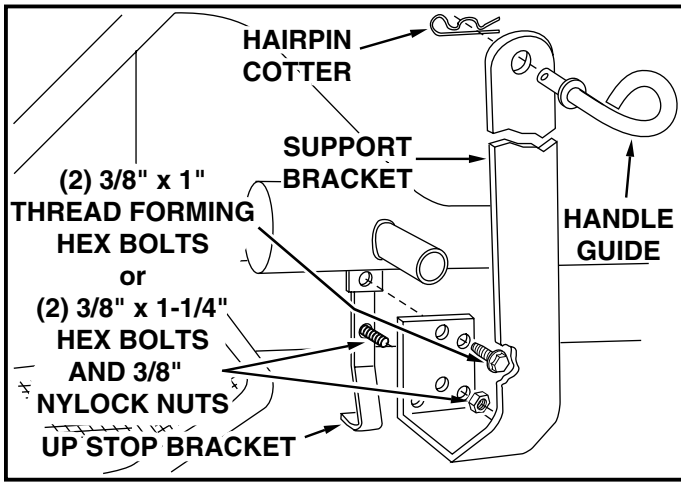

FIGURE 22
22. Align two front holes in Support Bracket with holes in front of foot rest on right side of tractor frame. Remove any bolts present in holes, but leave all brackets in place. Attach the Support Bracket using two 3/8" x 1-1/4" hex bolts and 3/8" Nylock nuts. If bolts won't fit, use 3/8" x 1" thread forming bolts without the Nylock nuts. See figure 22.
23. Assemble handle guide (with loop outside) at top of support bracket and secure with one hairpin cotter (large) inside. See figures 22 and 23.